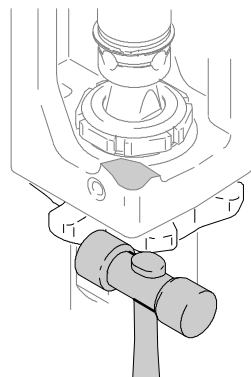

Fig. 10
5. Fig. 10. Loosen locknut with hammer. Unscrew pump.